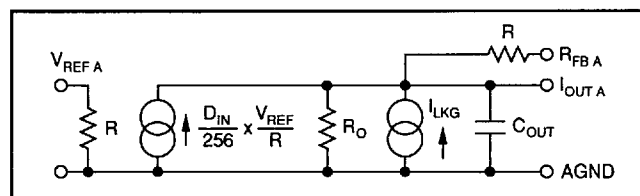

FIGURE 2. Simplified Circuit Diagram for DAC A.
Figure 2 shows an equivalent circuit for DAC A. C_{OUT} is the output capacitance due to the N-channel switches and varies from about 30pF to 70pF with digital input code. The current source I_{LKG} is the combination of surface and junction leakages to the substrate. I_{LKG} approximately doubles every $10^\circ C$. R_O is the equivalent output resistance of the D/A and it varies with input code.
(6) eB is measured at the lead tips with the leads unconstrained.
(7) N is the maximum number of terminal positions.
(8) Corner leads (1, 4, 5, and 8) may be configured as shown in Figure 2.
(9) For automatic insertion, any raised irregularity on the top surface (step, mesa, etc.) shall be symmetrical about the lateral and longitudinal package center-lines.